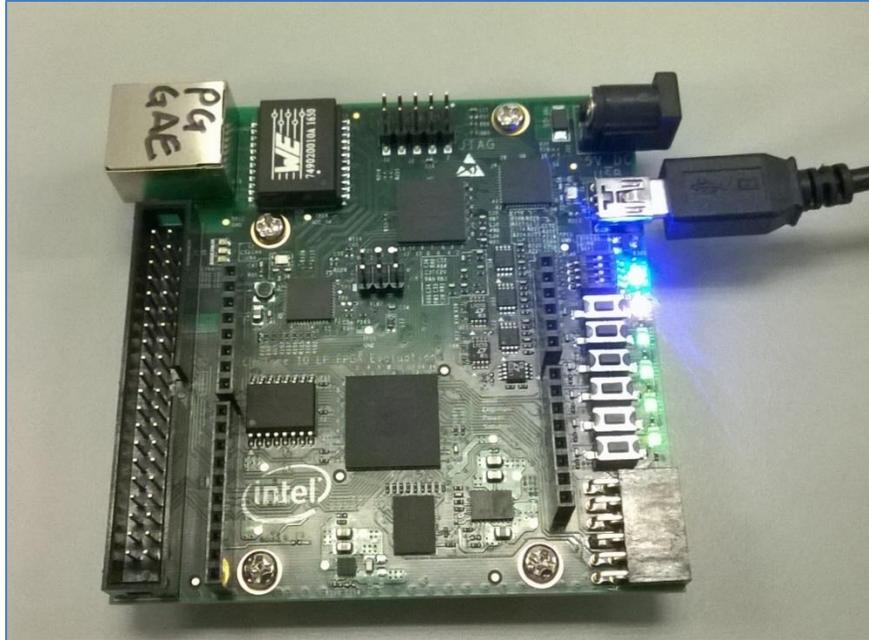

Figure 1. Cyclone 10 LP FPGA Evaluation Kit
1. Connect the USB cable coming together with the Cyclone 10 LP FPGA Evaluation Kit between the PC and the kit as shown in Figure 1
3. To enable RSU feature, make sure SW1.4 set to 1 (move to left side from the view of Figure 1). For more details about default switching settings, please refer to Cyclone 10 LP FPGA Evaluation Kit user guide